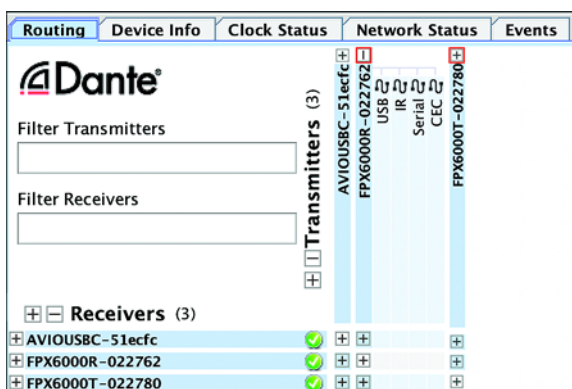

Figure 14. Displaying FPX6000T signal sending capabilities
4. Locate the desired FPX6000T Unit Name in the transmit channel at the top of Dante Controller grid, then click the “+” sign next to the Unit Name. The “+” changes to a “-” as it displays the transmitter’s signal receiving capabilities (see **figure 14** for examples highlighted in red squares).